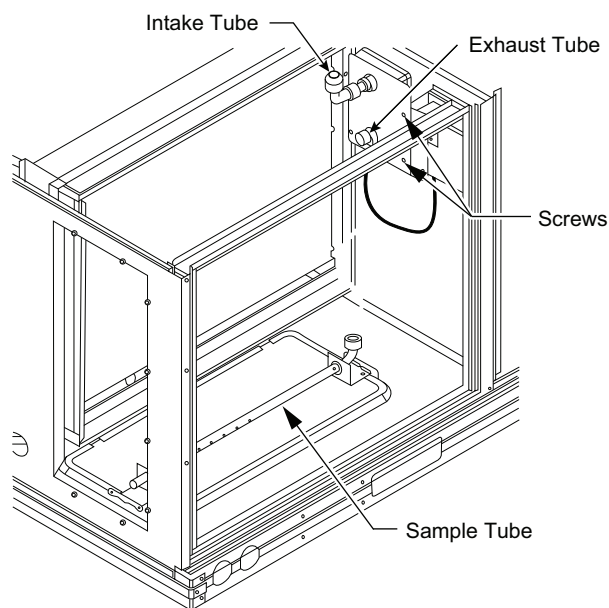

Fig. 47 — Return Air Smoke Detector Shipping Position
1. Unscrew the two screws holding the return air sensor detector plate. See Fig. 47. Save the screws.